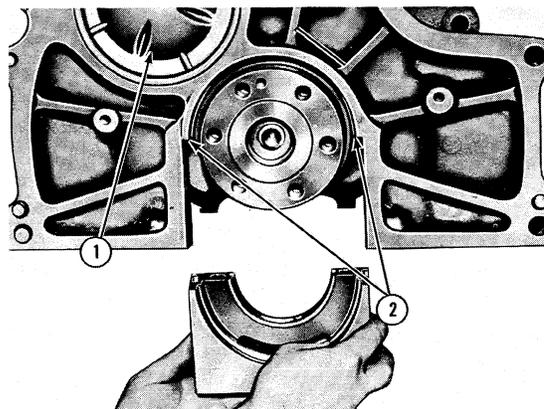
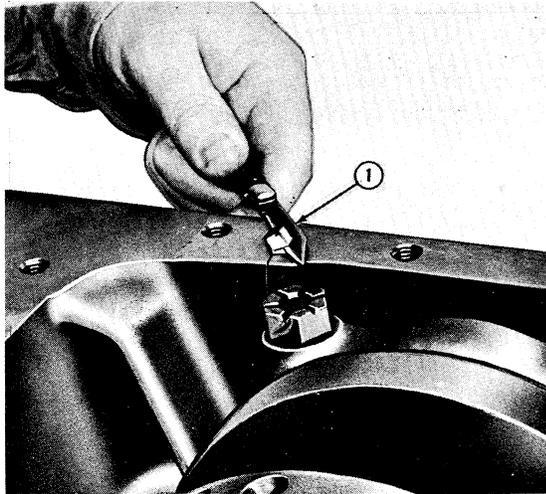

Figure 45
Figure 46
- 9. REAR MAIN BEARING CAP: Wipe the mating surfaces of the block and rear main bearing cap and apply a light coating of sealing compound to both surfaces. Install new side seals in the rear main bearing cap so that the seals project slightly beyond the block face of the cap. Assemble the cap and seals to the block, Figure 45. Tighten the rear main bearing cap bolts to ensure positive bottoming of the seals and cut the side seals to allow a projection of 0.016 in. (0.4 mm) above the pan rail, Figure 46.